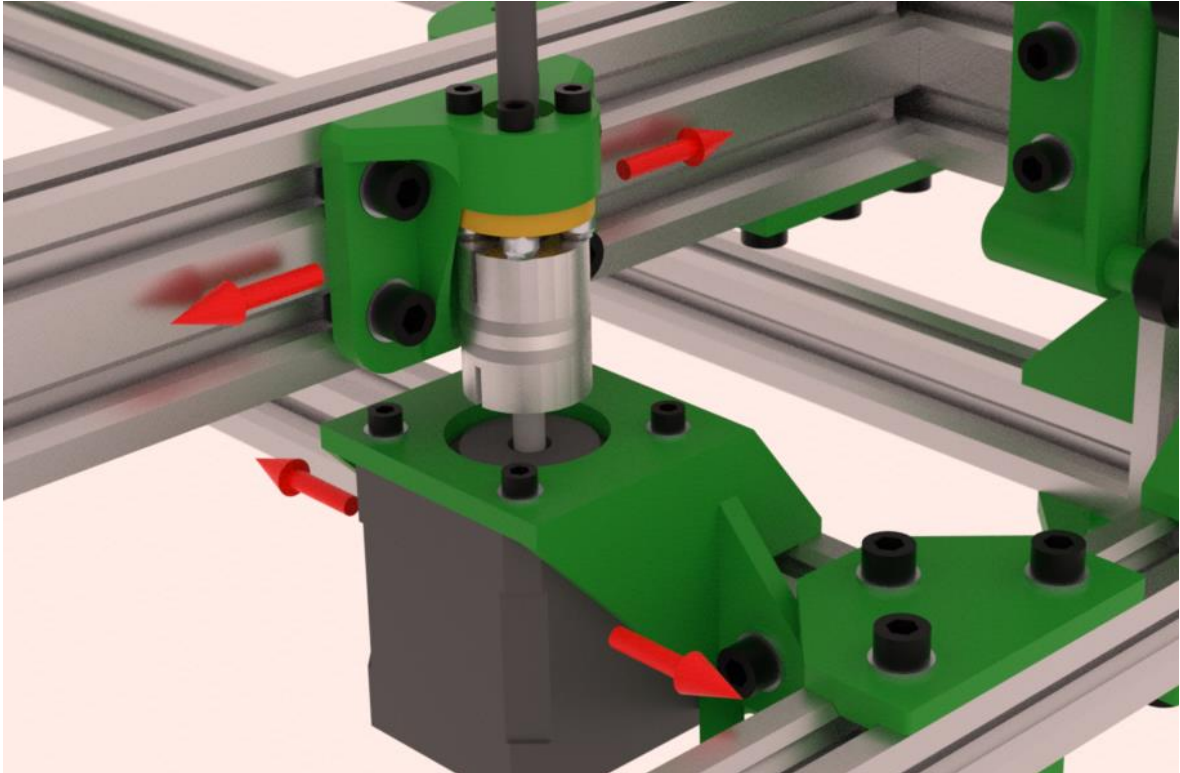

Figure 29: Lead Screw centering alignment
- The brass lead screw nuts need to be centered over the Z motors as shown in Figure 29.